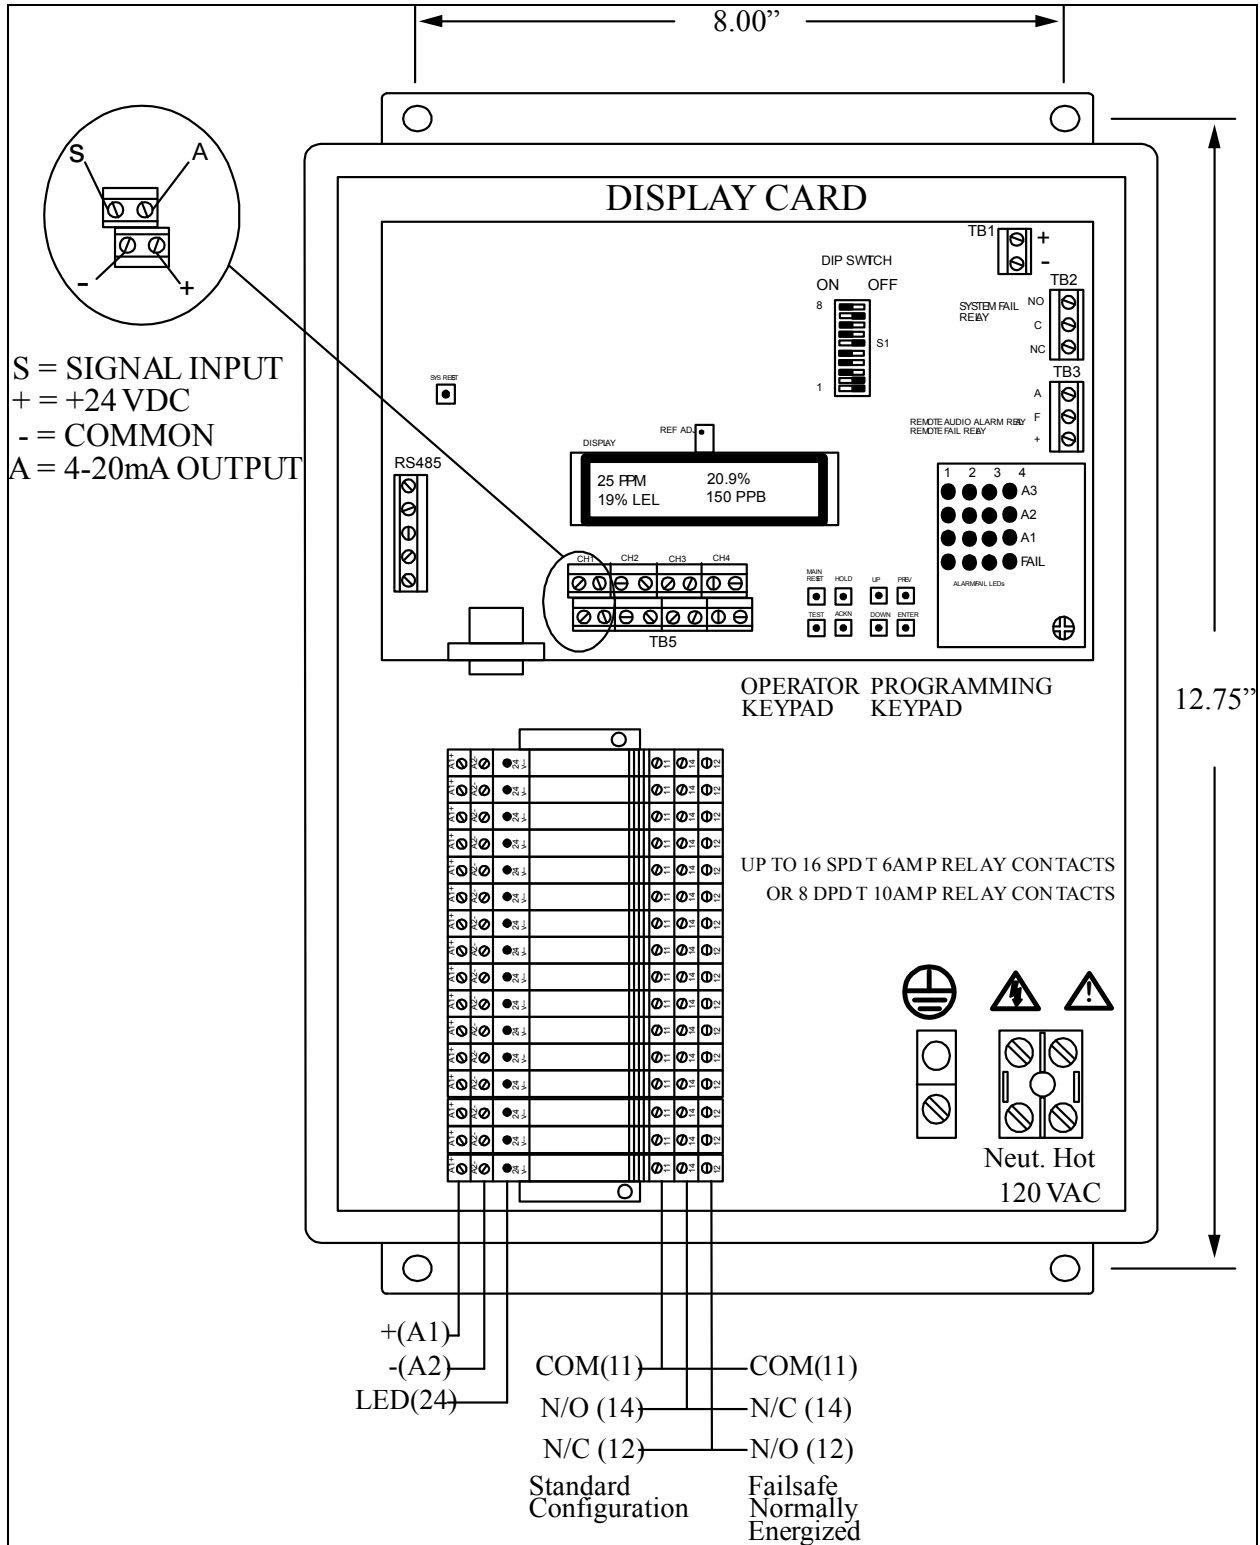

FIGURE 2: Internal Layout Of Components.
Care should be taken to securely fasten the AMC-1400 monitor unit on a solid, non-vibrating surface or structure at eye level. Mount the monitor in a NON-HAZARDOUS area where the unit can be observed periodically. (See Figure 2 for mounting hole locations.)
Power Supply: The monitor contains a 120 VAC, 60 Hz internal power supply to satisfy the internal circuitry low voltage requirements. The power supply connections are made at the two position terminal block located inside the monitor. (See Figure 2)
- Analog Output:** A 4-20 mA analog output is provided from each channel with a 4-20 mA sensor input. This output tracks the input signal to allow connection or an external recording or monitoring device. Since analog “-“is common between channels, either a differential or single ended interconnected device can be used. Maximum load for this signal is 250 Ohms. See Figure 2 for connections. Note these outputs are not used when multidrop inputs are used.